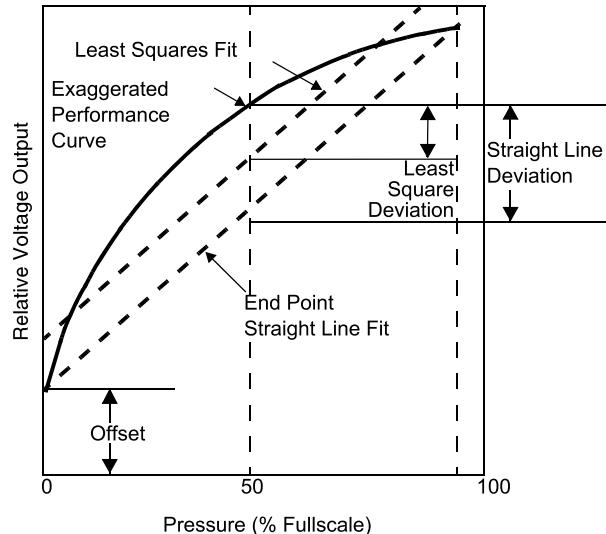

Figure 2. Linearity Specification Comparison
Linearity refers to how well a transducer's output follows the equation: $V_{\text{out}} = V_{\text{off}} + \text{sensitivity} \times P$ over the operating pressure range. There are two basic methods for calculating nonlinearity: (1) end point straight line fit (see Figure 2) or (2) a least squares best line fit. While a least squares fit gives the "best case" linearity error (lower numerical value), the calculations required are burdensome.